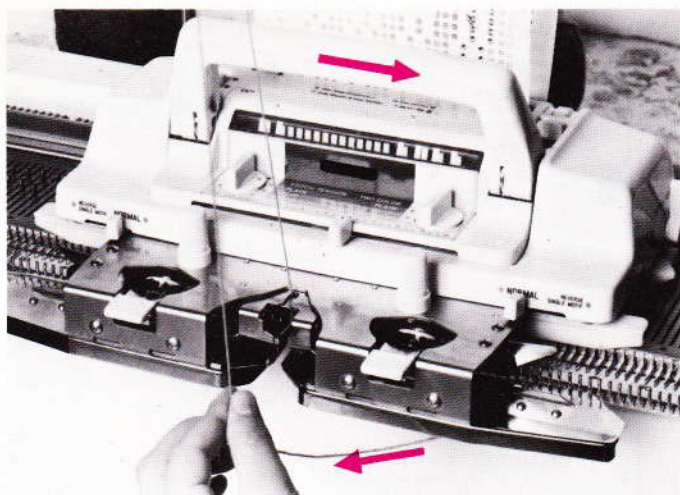

Fig. 133
- Bring the weaving yarn under the fabric press, clearing it from the brushes by pushing the carriage slightly towards the right (fig. 133). Release yarn B.